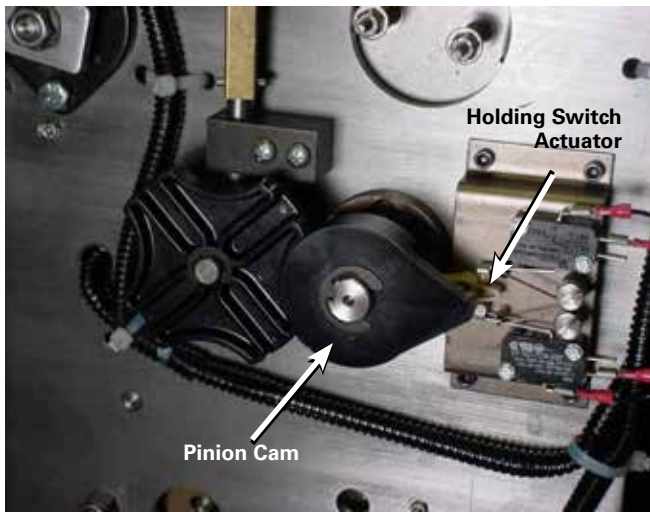

Figure 52. Neutral position for position indicator pinion cam and holding switch.
C. The pinion cam is pointing to the right over the holding switch actuator. See Figure 52.